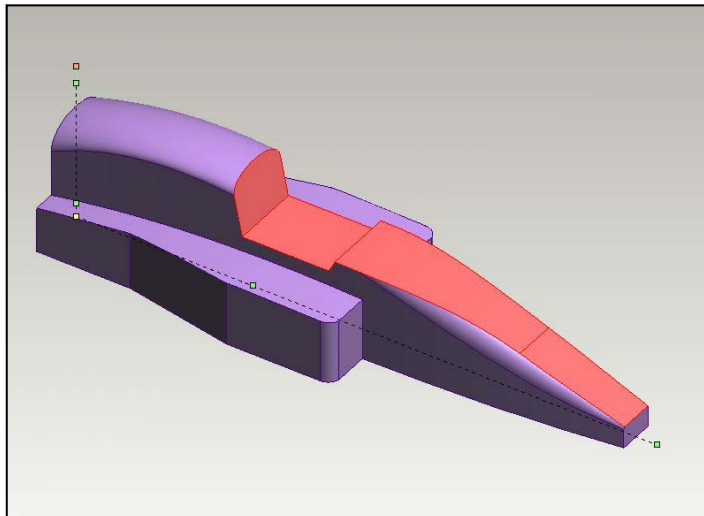

Figure 14 - Updated front end
- 3) Your model should now look like the one in figure 14.